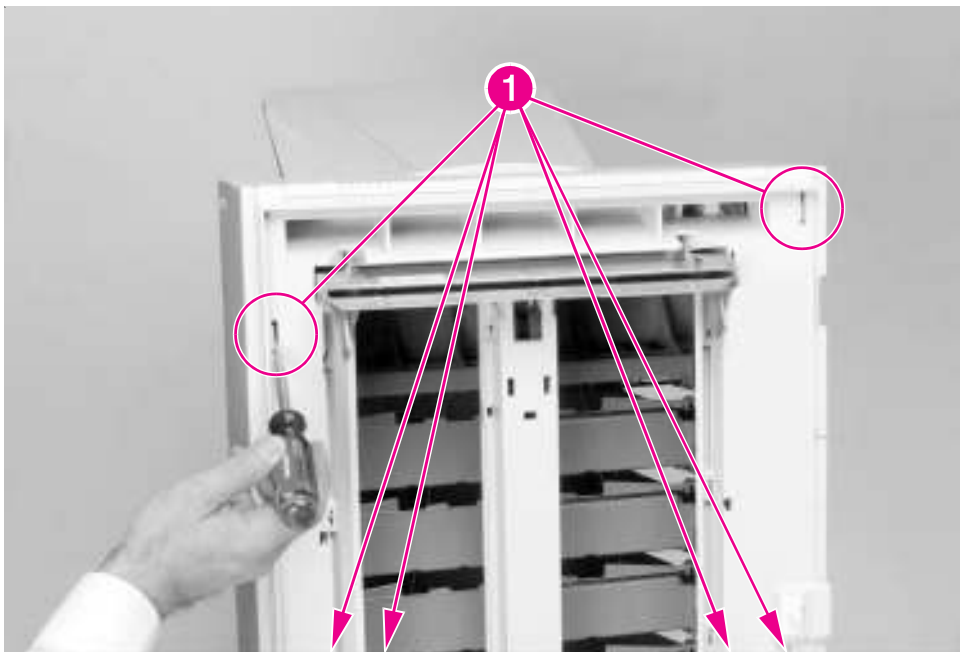
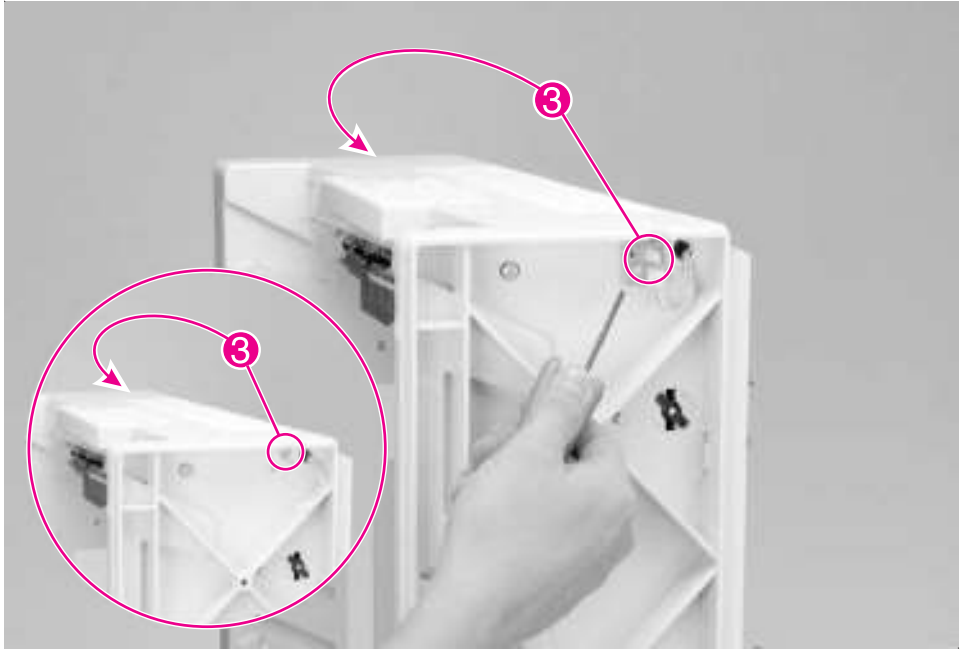

Figure 6-150 8-bin Mailbox Covers (Front and Back)
Figure 6-151 8-bin Mailbox Top Cover
- 1 Remove the Front and Back Covers from the 8-bin Mailbox (see Figure 6-150).
- 2 Remove the Front, Back, and Top Covers from the 8-bin Mailbox (see Figure 6-150 and Figure 6-151).
- 1 Remove the Back Cover from the 8-bin Mailbox (see Figure 6-150).